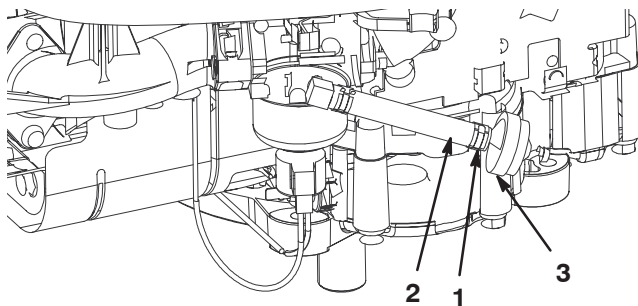

Figure 25
7. Squeeze the ends of the hose clamp together and slide it up the fuel line toward the fuel tank (Fig. 25).
8. Pull the fuel line off of the filter (Fig. 25) and allow the gasoline to drain into a gas can or drain pan.
Replace the fuel filter after every 100 operating hours or yearly, whichever occurs first. The best time to replace the fuel filter (Fig. 25) is when the fuel tank is empty. Never install a dirty filter if it is removed from the fuel line.
6. Squeeze the ends of the hose clamps together and slide them away from the filter (Fig. 25).